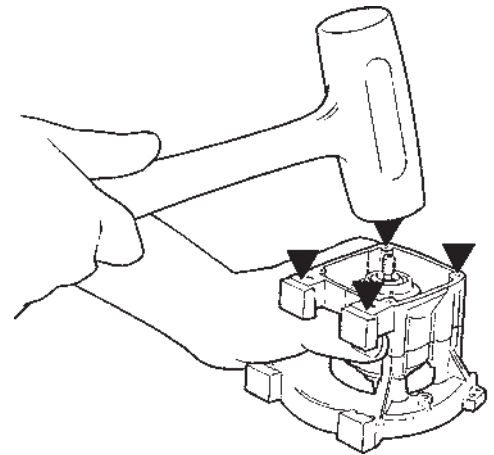

Figure 8.21 Installing crankshaft half "S"
- Gently tap crankcase half "S" into place with a soft-faced hammer (Figure 8.21).